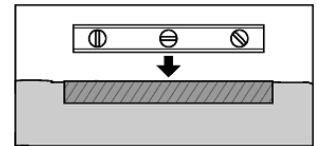

fig. 9
d) The tiles have to sink into the ground so that the entire floor is levelled around them, fig. 9. Use a spirit level and a wood line to make sure all the tiles are flush with each other.